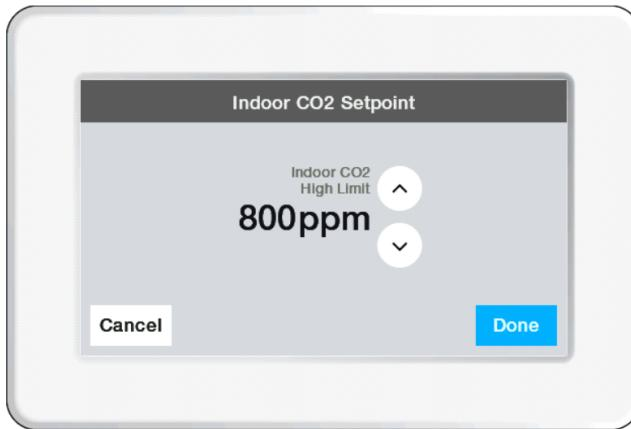

Fig. 15.
- a. Use the up and down arrows to select the CO2 ppm high limit, refer to Fig. 15.